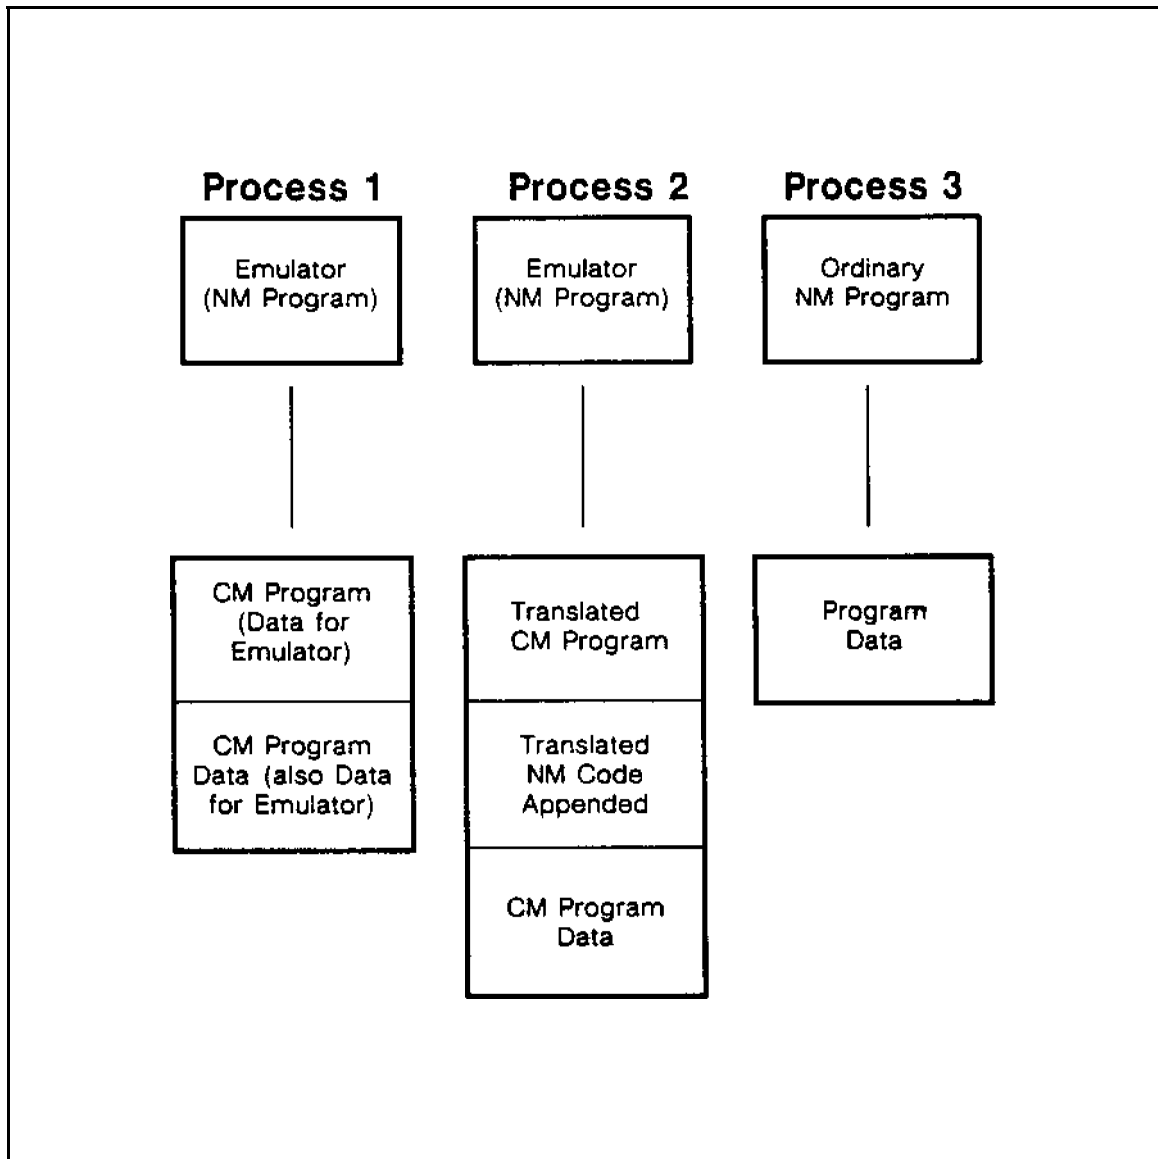

Figure 1-1. MPE XL Execution Environment
Figure 1-1 illustrates the place of emulation, translation, and full recompilation within the Native Mode (NM) operating environment. The figure shows three processes running independently under MPE XL:
The translated program in Figure 1-1 is the result of a one-time translation process illustrated in Figure 1-2. The translation process is invoked by issuing the command: `:OCTCOMP CMprogname`.